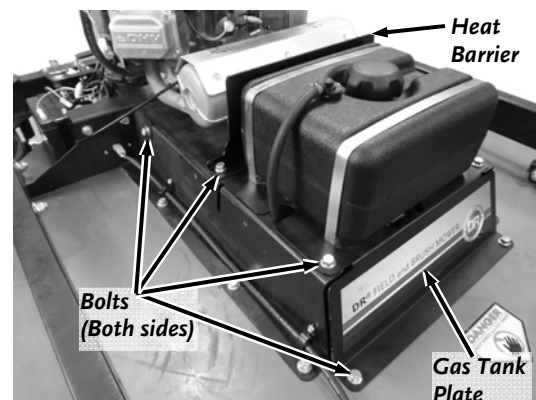

Figure 33
4. Using a 9/16" Wrench, Remove the eight bolts securing the Heat Barrier (20hp Only) and Gas Tank Plate (**Figure 33**).